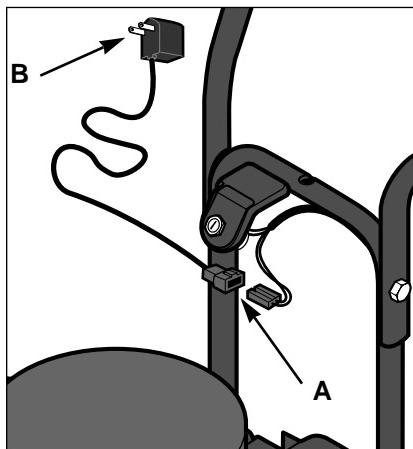

Figure 5-15: Use the recharger shipped to you to charge the battery.
- Connect the battery charger shipped to you to the trimmer/ mower wire harness (A, Figure 5-15). The terminals should be snugly connected.
- Plug the recharger (B, Figure 5-15) into a grounded 120-Volt outlet.